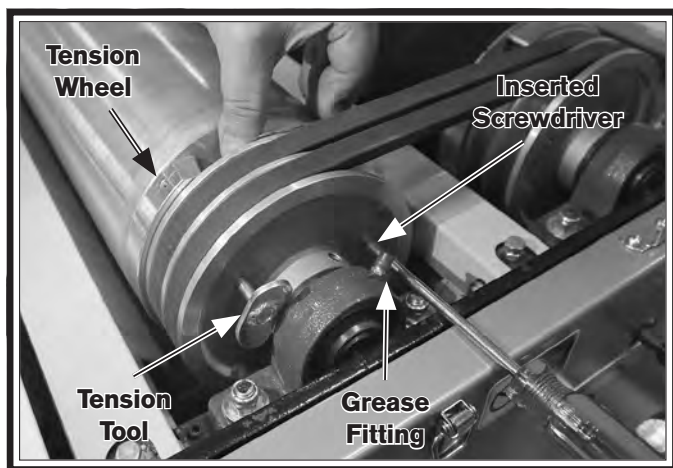

Figure 22. Example of pre-tensioning sandpaper tension wheel.
8. Insert screwdriver into rear hole in pulley, as shown in **Figure 22**.
9. Turn tension wheel clockwise as far as tension spring will allow (about 20mm), then fully insert tension tool in front hole (see **Figure 22**), release tension wheel, then remove screwdriver.